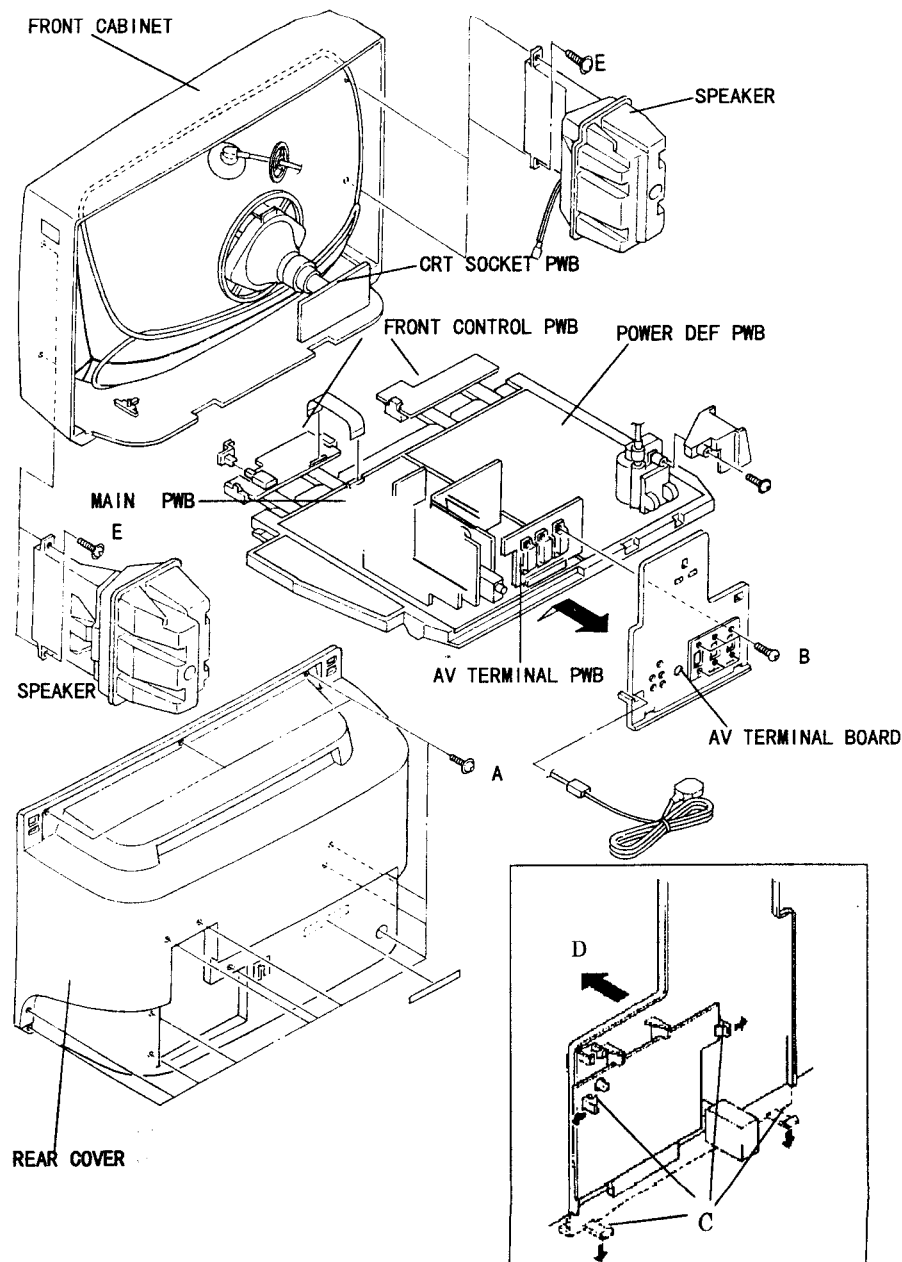

Fig. 1
1. Remove the 6 screws marked "B" as shown in the Fig. 1.
1. Remove the 2 screws marked "E" as shown in Fig. 1.